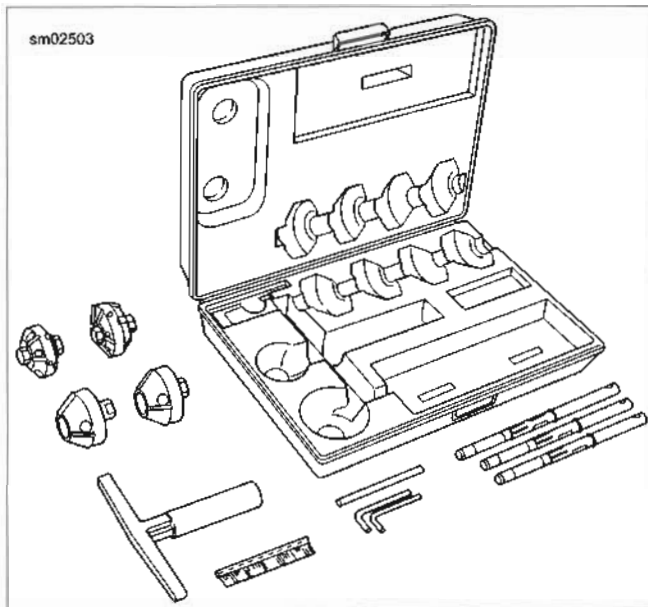

Figure 3-52. Neway Valve Seat Cutter Set
10. See Figure 3-52. Obtain the NEWAY VALVE SEAT CUTTER SET (Part No. HD-35758-C). Choose the cutter pilot that fits properly into the valve guide hole. Securely seat the pilot by pushing down and turning using the installation tool supplied in the tool set.